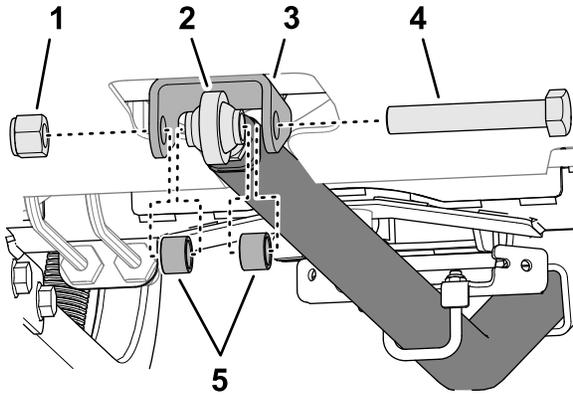

Figure 13
- Align the hole in the rod end of the drawbar with the holes in the drawbar mount of the rear-frame bulkhead (Figure 13).
- Assemble the rod end to the mount with the capscrew (3/4 x 4-1/2 inches), 2 spacer, and locknut (3/4 inch) as shown in Figure 13.